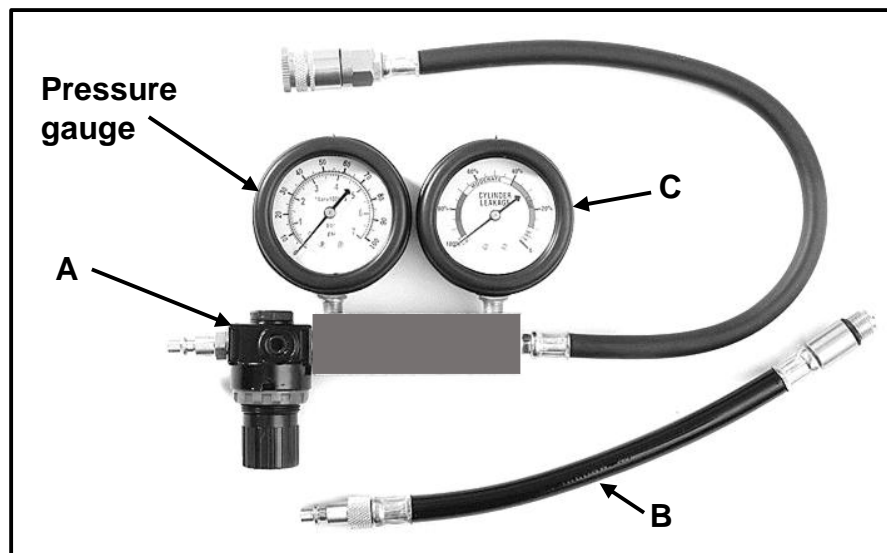

FIGURE 5.2
5.2 FIGURE 5.2 below shows a cylinder leakage tester. Answer the questions that follow.